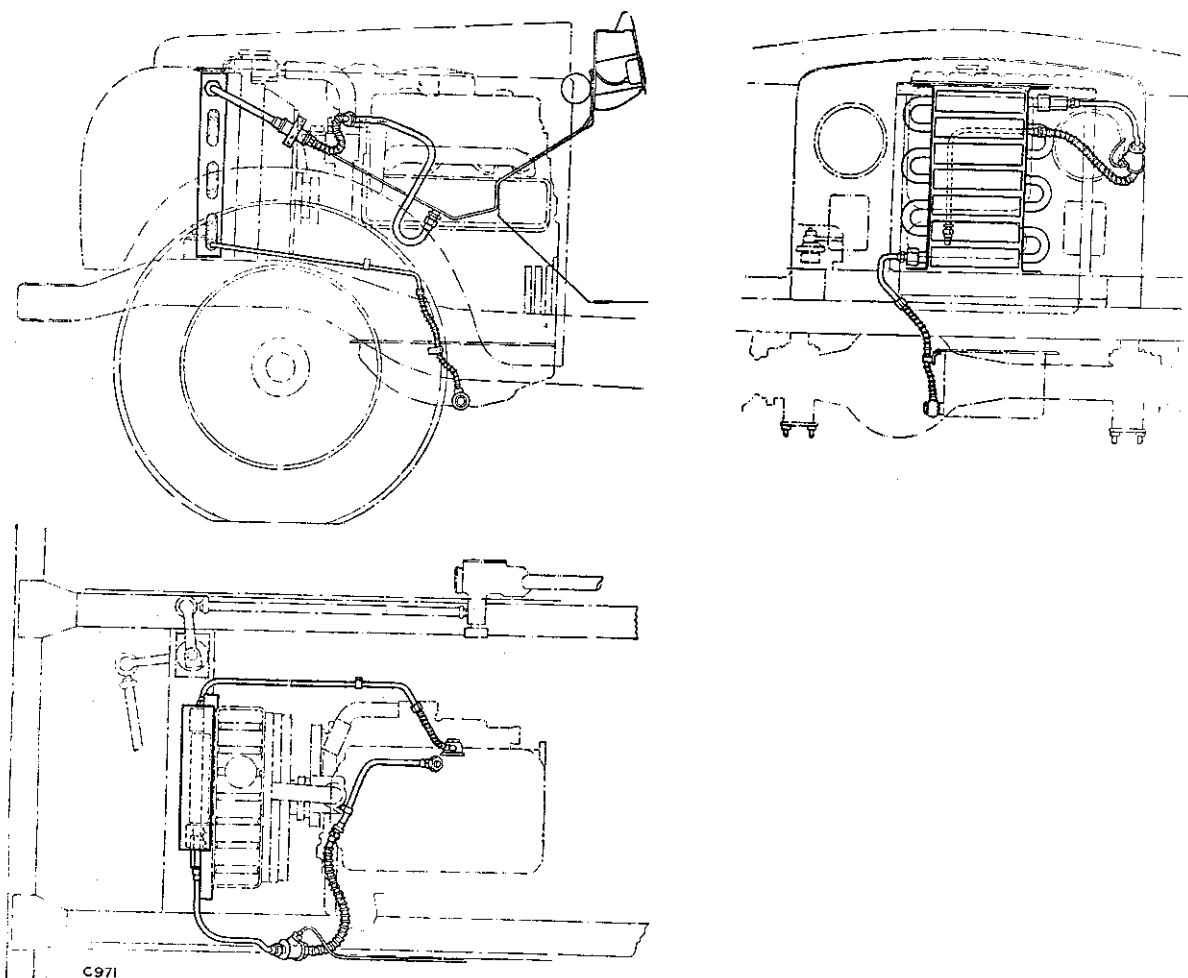

Fig. T-26—Installation of oil cooler, Petrol models.
27. Fit the union to the oil cooler lower R.H. side and fit the right-angled end of the oil return pipe to the union and secure the other end of the flexible pipe already fitted to the sump. Figs. T-26 and T-27. Secure the non-flexible pipe to the battery carrier (R.H. on Diesel), using a clip, screw, nut and spring washer.